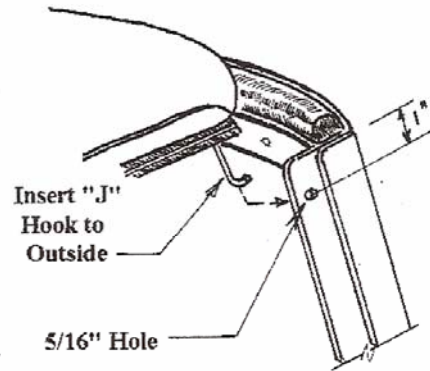

Fig. 2: Front Fastener
5. On the windshield frame, drill a 5/16 "hole approximately 1" below the top of the frame through the windshield post flange (both sides). These are the attachment points for the front "J" hooks of the hardtop.(refer to Fig 2)